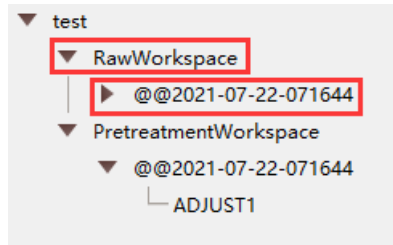

Figure 17
- Right-click the project file, and the TAB appears. Then, left-click Pos solve, as shown in figures 17 and 18.